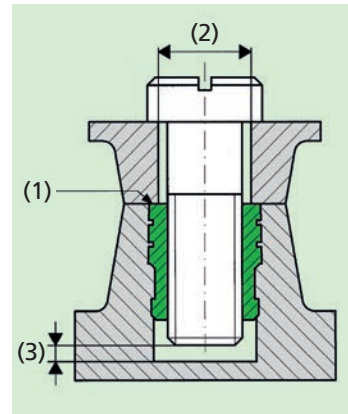

Fig. 16
The part requiring fastening should be flush with the threaded insert, see (1, fig. 16). For this reason the **bore-hole (2) should be closely dimensioned and not countersunk**. The Mubux[®]-A press in flush into the formed part (1).